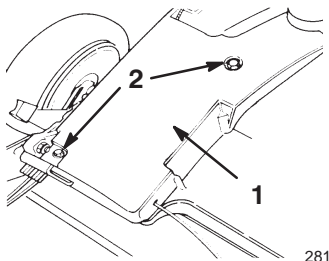

Figure 26
2. Remove the cover (Fig. 26).
2. Remove the bolts that secure the belt cover to the housing (Fig. 26).